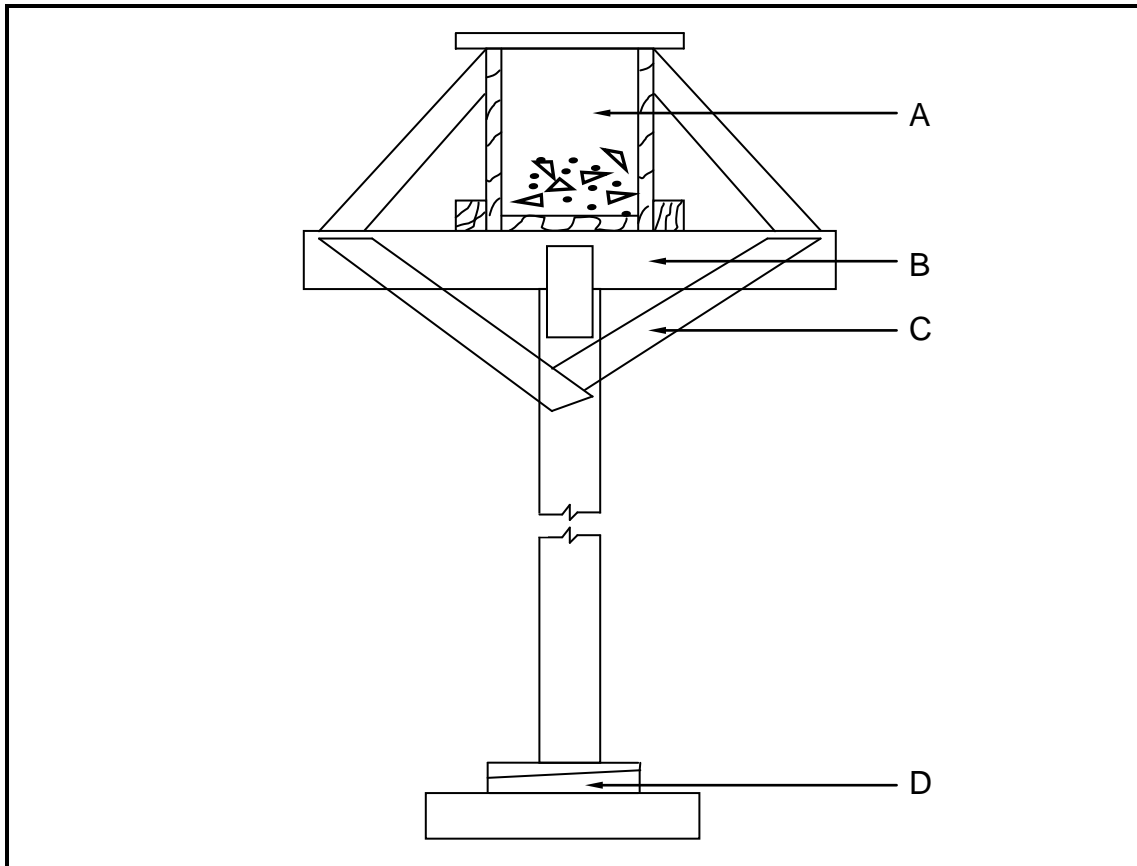

FIGURE 2.5
- 2.5 FIGURE 2.5 below shows formwork supporting a concrete beam. Analyse the illustration and answer the questions that follow.